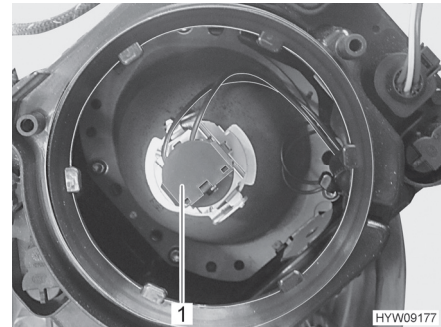

Fig. 219 Bulb (low beam/main beam)
- Turn the holder (Fig. 219,1) with the lamp in an anticlockwise direction and take it out of the lamp housing.
- Insert the holder (Fig. 219,1) with bulb into the lamp housing and tighten in a clockwise direction. The holder engages audibly.